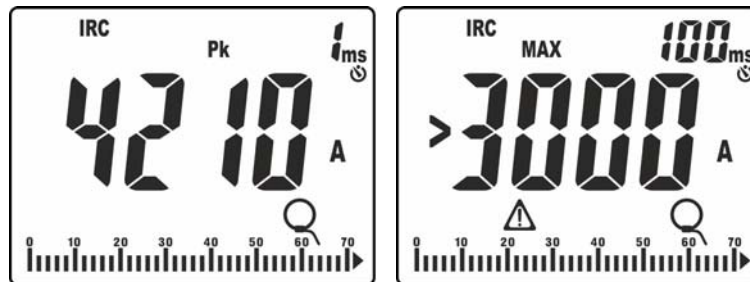

Fig. 44: Examples of display of inrush current
- Peak value "Pk" calculated in **1ms** (see Fig. 44 – left side)
11. If the measured current is higher than the set FS of the clamp, a message like the one in Fig. 44 – right side (relevant to FS = 3000A) is shown on the display.